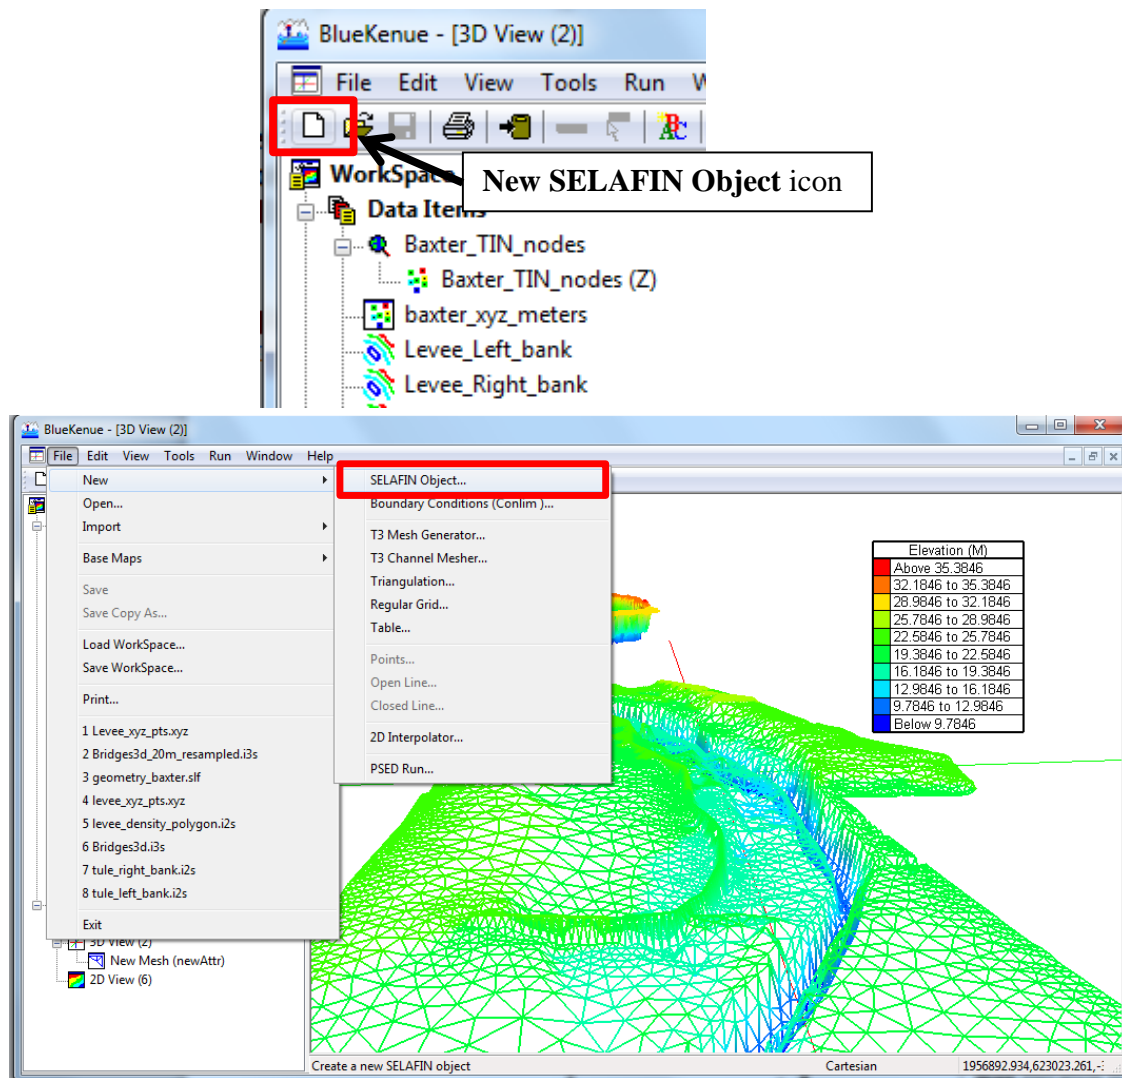

Figure 45: Create a new geometry object using either the toolbar icon or File command
Step 1 , create new Selafin File utilizing either the **New SELAFIN Object** icon or through **File ; New ; SELAFIN Object** (i.e. Figure 45).